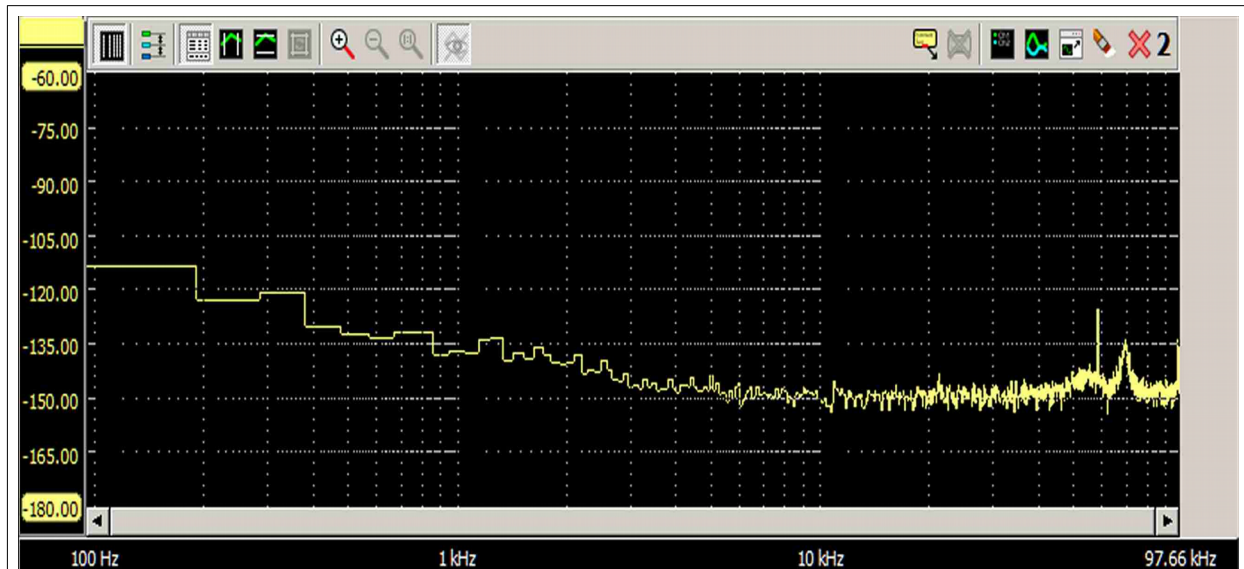

Figure 4 HS3 ground noise, USB power
We've configured it to create a sine wave as the AC source to the ripple rejection test fixture. In these spectral images of figures 4 and 7, the AWG is turned off and any noise above the baseline is from the internal operation of the HS3.
- Same as figure 4 *EXCEPT* a cell phone was inserted into another USB outlet on the same computer.